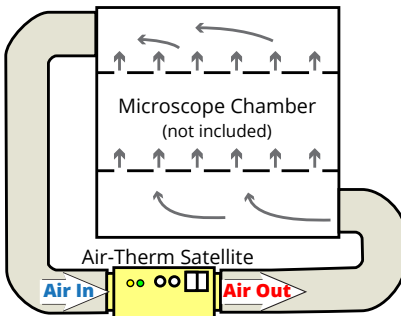

Fig. 56—Connect the tubing to the air inlet and outlet ports on the AirTherm Satellite to the air outlet and inlet ports on the microscope chamber.
1. Connect tubing with the included clamps as shown in Fig. 56.